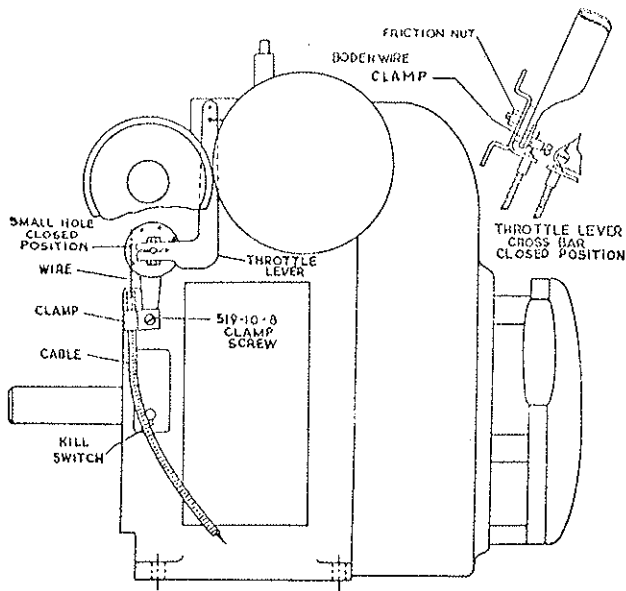

Fig. 3
4. The engine throttle has been installed on engine as shown in Figure 3 (steps "a" thru "c" have been completed.)
e. Check travel of throttle lever and adjust as follows. With the throttle lever on engine in the closed position, the lever on handle should be as shown in the sketch, Figure 3. Next, tighten bodewire clamp to prevent slipping on throttle wire. Throttle assembly is now ready to test.
9. For all Kohler engines the "kill switch" is located on the lower left side of the engine below the exhaust. See Fig. 3.